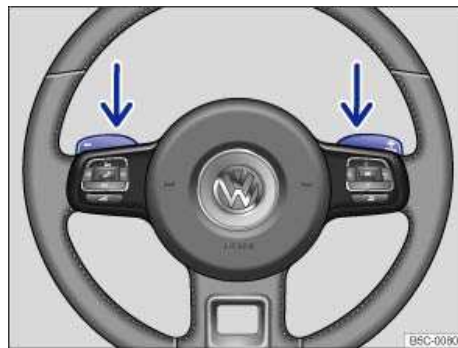

Fig. 121 Steering wheel with Tiptronic shift paddles (if equipped).
- The paddles ⇒ fig. 121 (arrows) work when the selector lever is in the Tiptronic position or when the selector lever is in Drive **(D)** or Sport Drive **(S)**. You do not have to move the selector lever over to the right into the Tiptronic position.